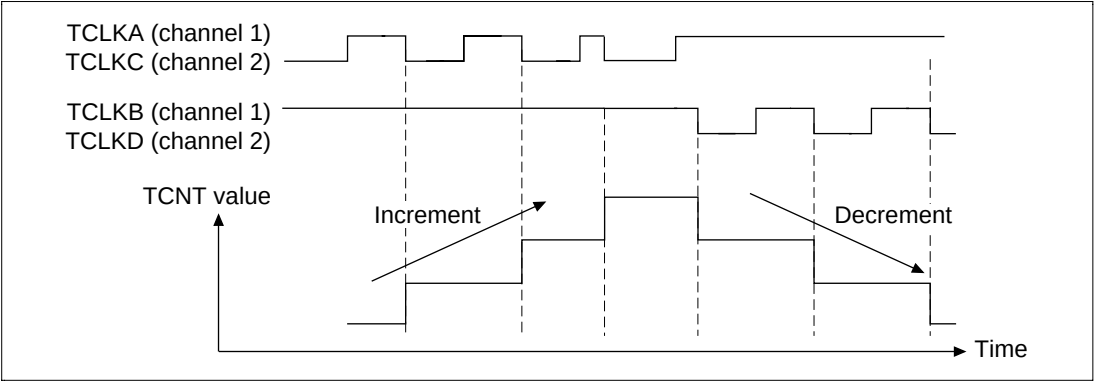

**Figure 12.32 Phase Counting Mode 3 Operation**
**Phase Count Mode 3:** Figure 12.32 shows an example of phase counting mode 3 operation. Table 12.11 lists the up counting and down counting conditions for the TCNT.